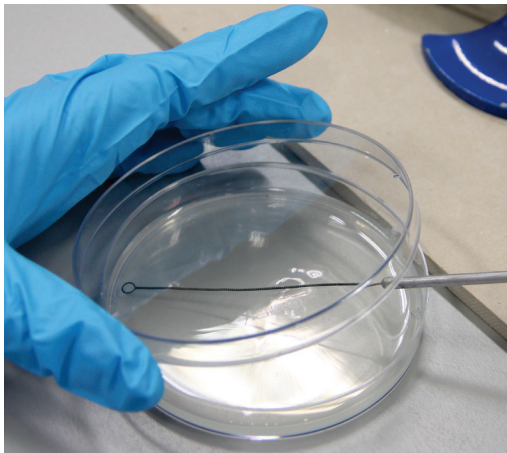
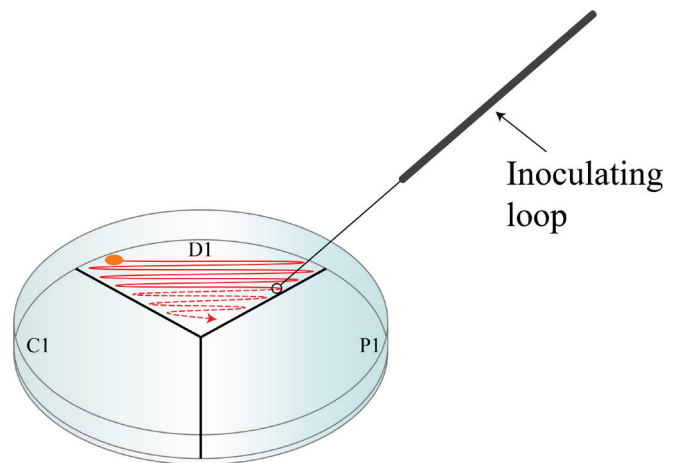

Fig. 25
Fig. 26
5. Raise the lid of the agar plate at 45° (Fig. 25). Using the flame-sterilised inoculating loop, transfer a loopful of microbial culture from tube “D1” onto section “D1” of the agar plate, and spread it evenly across the section (Fig. 26).